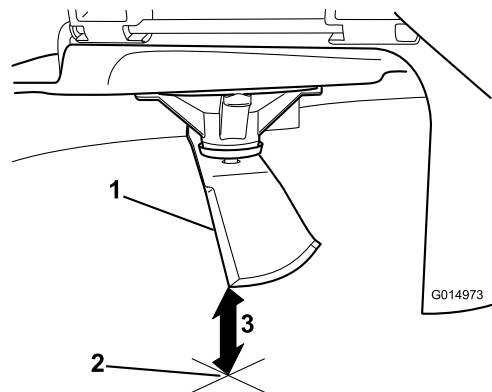

Figure 98
5. Measure from the tip of the blade to the flat surface (Figure 98).